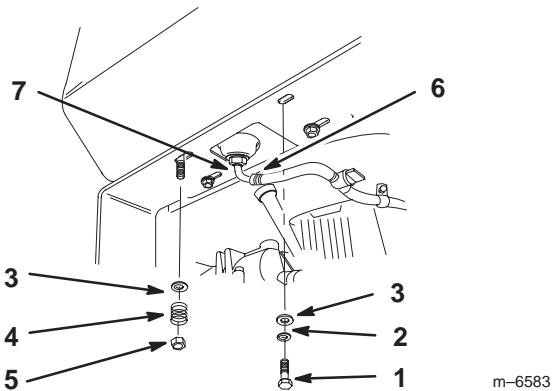

Figure 7
- Align the fuel tank with the top of the rear frame (Fig. 7).
4. Secure the right side of the fuel tank to the rear frame (Fig. 7) with 2 bolts (5/16 x 7/8 inch), lock washers (5/16 inch) and washers (5/16 inch) (Fig. 7).
5. Secure the left side of the fuel tank to the rear frame (Fig. 7) with washers (5/16 inch), springs and locknuts (5/16 inch) (Fig. 7).